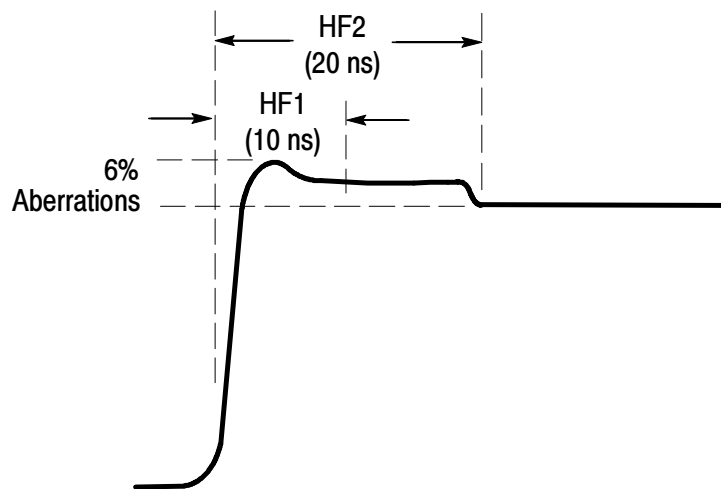

Figure 9: HF Compensation Regions of Fast Rise Signal
10. Adjust **HF2** for flatness and adjust **HF1** for the best front corner. See Figure 9. Because **HF1** and **HF2** interact, readjust **HF2** and **HF1** as necessary to achieve the best rise time with the smallest aberrations.